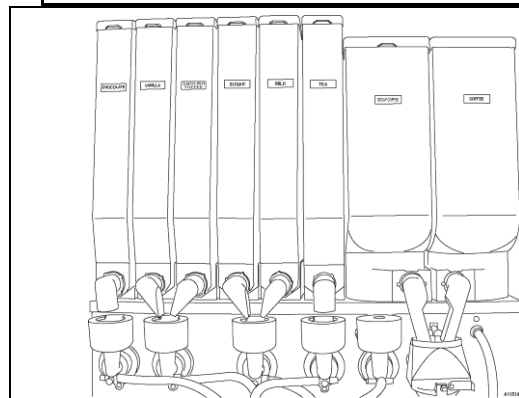
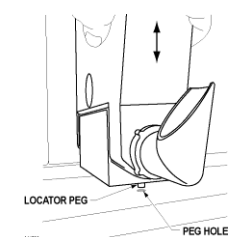
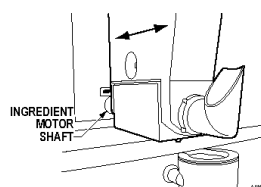

Figure 5a. Canister Lineup
Figure 5c. Locator Peg
Figure 5d. Motor Shaft
2. When filling the canisters, hold the top and bottom of the canister and slowly lift it up so that the locator peg clears the peg hole. **Figure 5c**. Slide the canister forward until it is out of the ingredient motor shaft. **Figure 5d**.
8. Review the canister arrangement as shown in **Figure 5a**. Hold the canister carefully at the bottom and top to prevent spilling. Gently place the filled canister back on the product shelf. **Figure 5d**.
9. Line up the hollow shaft in the back of the canister with the ingredient motor shaft. See **Figure 5d**.
10. Slowly slide the canister toward and over motor shaft until locator peg falls inside the hole on the product shelf. See **Figure 5c**.